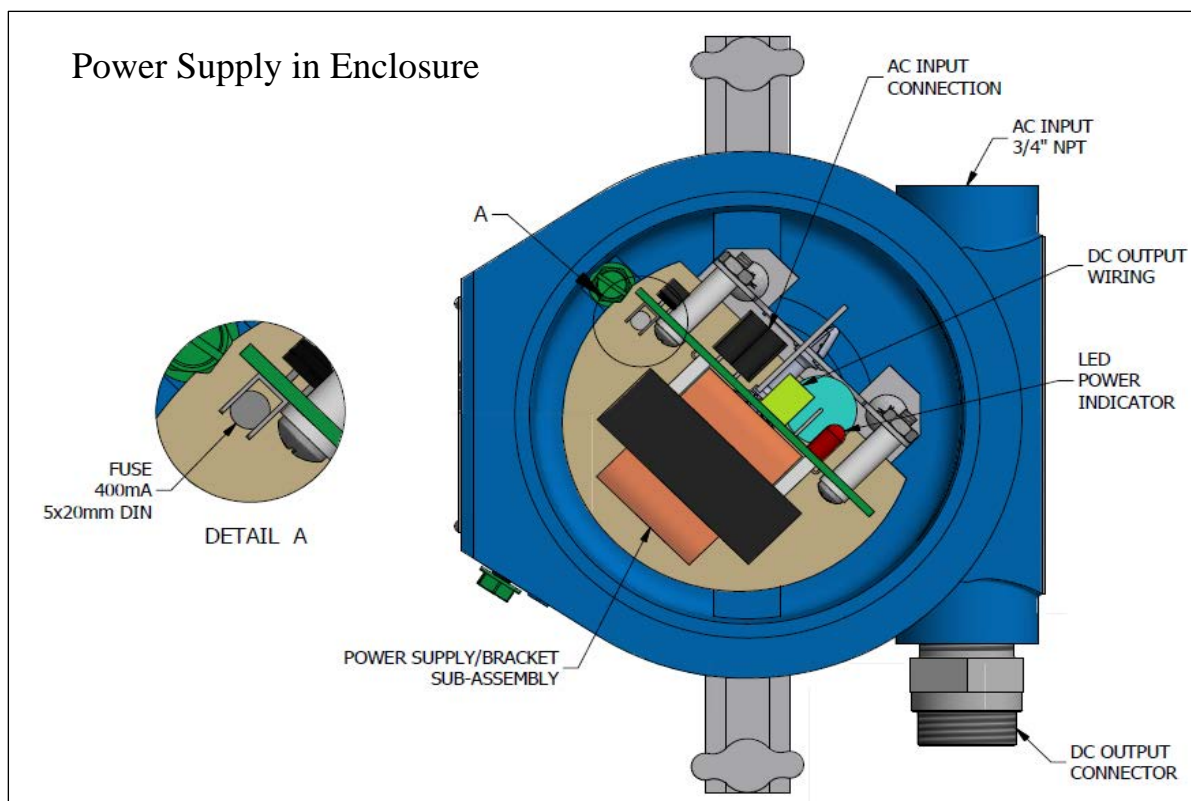

Figure 15
- 4) Remove 2 screws holding power supply sub assembly in place. See Figure 15.